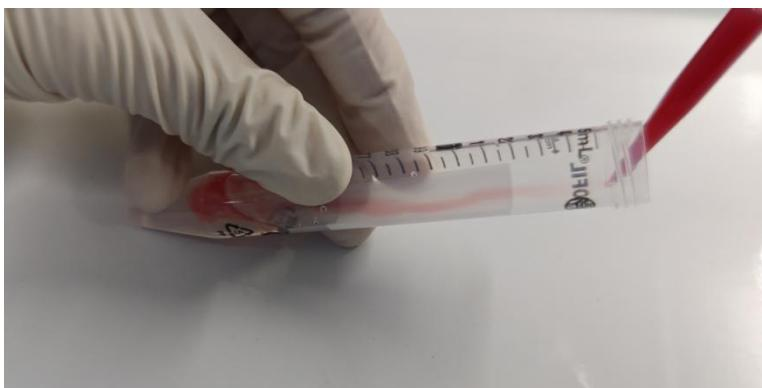
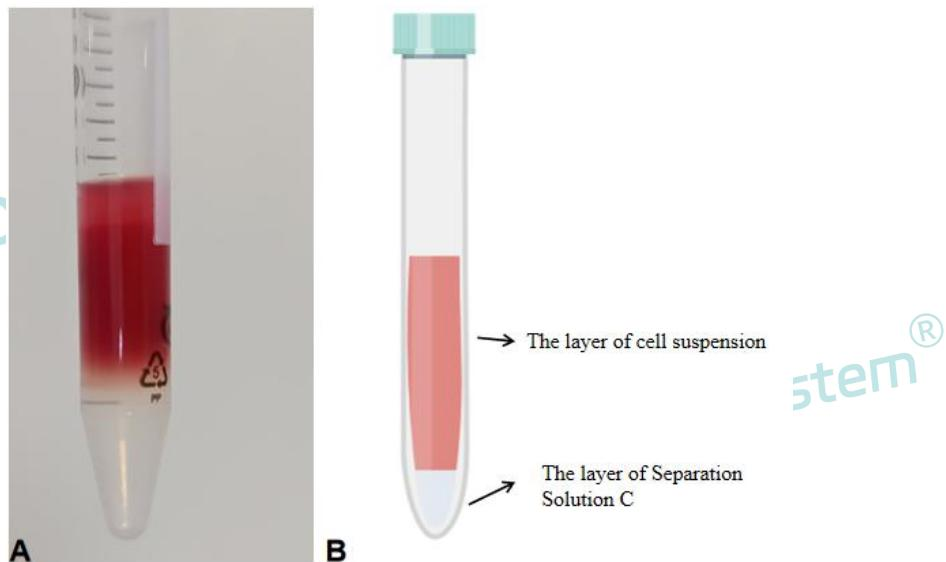

Figure 2. Demonstration of Layered Operation of Cell Suspension and Separation solution
Figure 3. Reference diagram for liquid level stratification
- (3) Resuspend the cell pellet in a 50 mL centrifuge tube using 6 mL of **Special Separation Solution A For Rat Liver Sinusoidal Endothelial Cells**. Centrifuge at 900 g for 15 minutes and discard the supernatant (which contains liver stellate cells, a small amount of sinusoidal endothelial cells, Kupffer cells, hepatocytes, etc.) retaining the precipitate.
- (4) Resuspend the precipitate obtained from the 50 mL centrifuge tube in the previous step using 6 mL of **Special Separation Solution B For Rat Liver Sinusoidal Endothelial Cells**. Take a new sterile 15 mL centrifuge tube and add 3 mL of **Special Separation Solution C For Rat Liver Sinusoidal Endothelial Cells**. Use a 1 mL pipette to collect the cell suspension from the 15 mL centrifuge tube, tilt the tube with the pipette tip against the wall of the tube, and gently blow out the cell suspension along the tube wall to slowly flow into the liquid surface above **Special Separation Solution C For Rat Liver Sinusoidal Endothelial Cells** (as shown in Figure 2), form two layers of liquid (as shown in Figure 3).